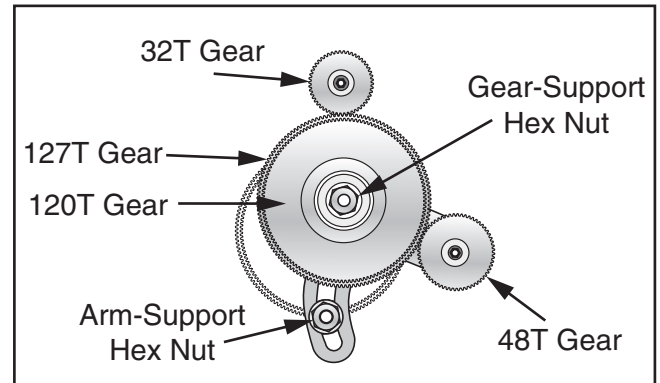

Figure 74. Gears installed for threading 22TPI.
- Slide **127T** gear against lower **48T** gear (see **Figure 74**) until they mesh with 0.002" to 0.004" backlash, then tighten gear support hex nut.